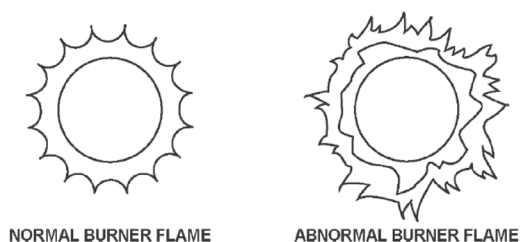

Figure 78. Normal and Abnormal Burner Flames
- Cause no excessive lifting of flame from burner ports. See **Figure 78**.